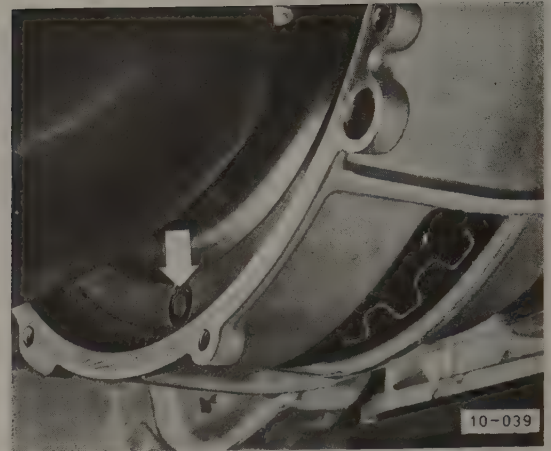

Fig. 5-5. Bolt (arrow) fastening torque converter to drive plate. Remove three bolts.
15. Working through the lower opening in the bellhousing, remove the three bolts that hold the torque converter to the drive plate. See Fig. 5-5.